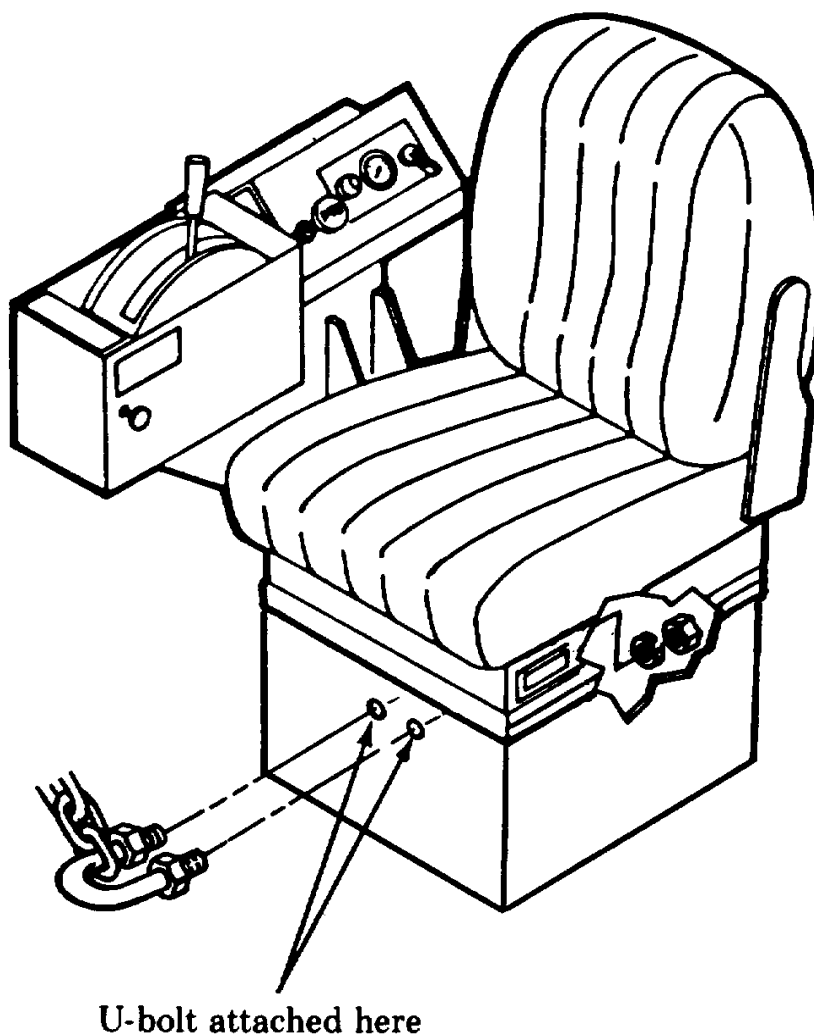

Figure 7. Chain and Attaching Hardware.
a. Loop one end of chain through a U-bolt. Run hex nuts all the way up the U-bolt to give extra support before installing the U-bolt to the seat assembly. Drill two holes (approximately 1 1/2 inches) from the top of the seat riser (using 1/4 inch drill). Mount U-bolt to seat assembly, tighten nuts and stake threads (on inside side of seat assembly), so U-bolts cannot be removed (Fig. 7).